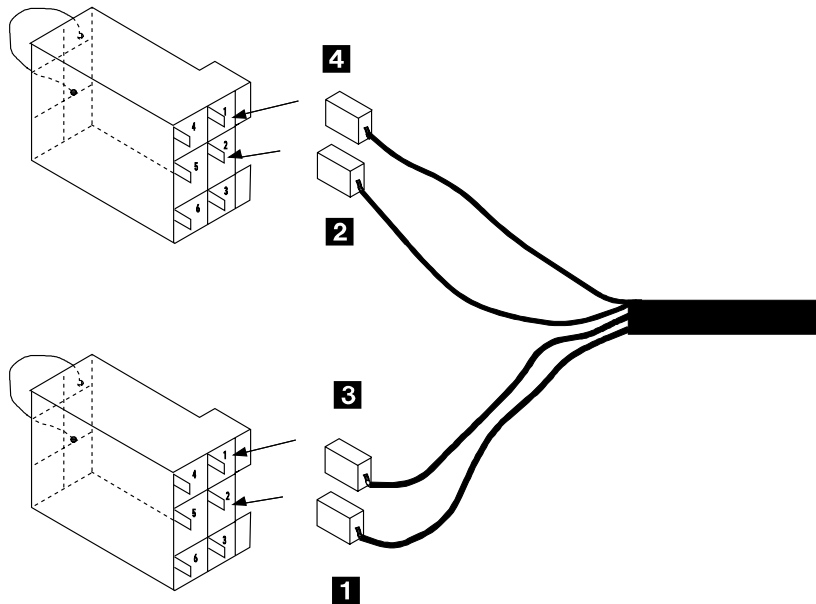

Figure 2-33. EPO Plugs
Step 1. \_\_\_\_ Connect the UEPO cable leads **1** and **3**, and **2** and **4** to the EPO plugs (PN 8482303) pins 1 and 2 (see Figure 2-33).